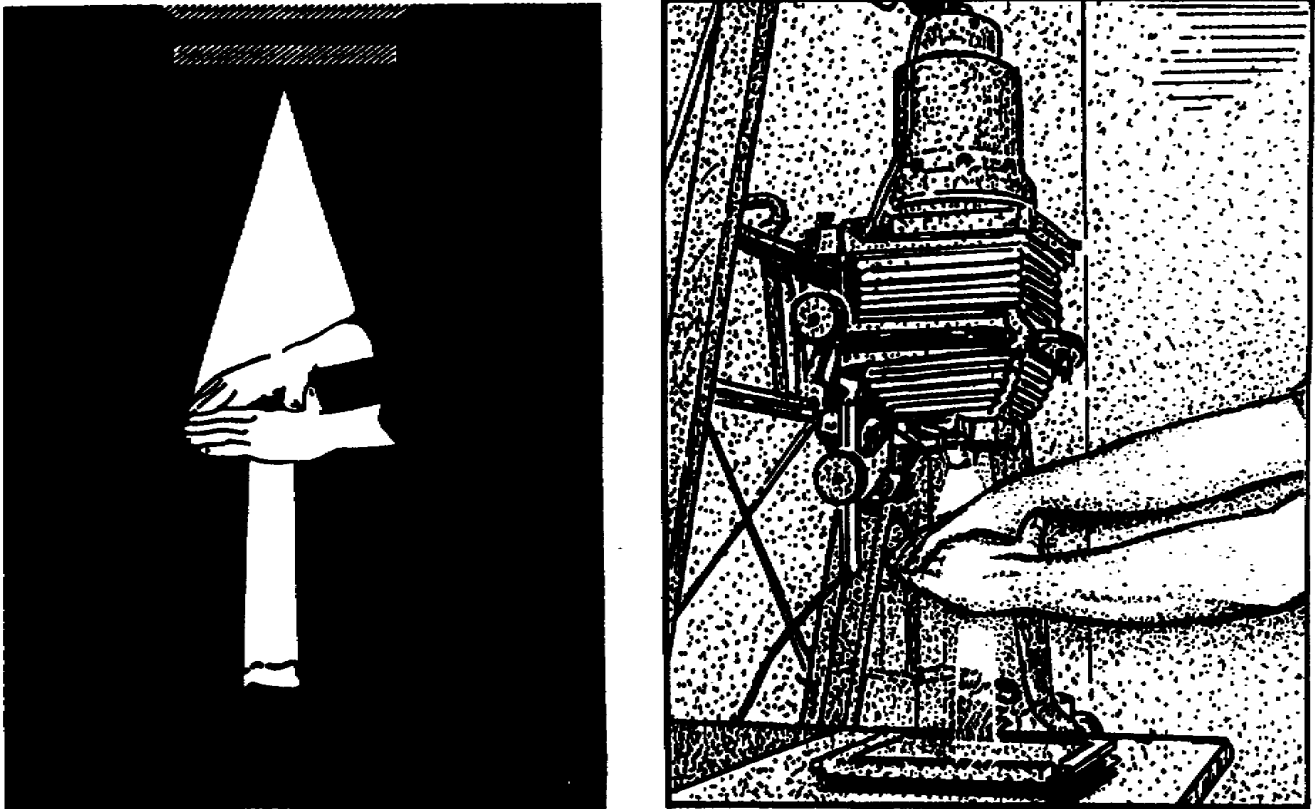

Figure 2-9. Using the hands as a dodging device
b. Since the dodging material is held and manipulated in the beam of light between the lens and paper, its location and coverage can be seen and controlled during the printing exposure. As shown in Figure 2-9, the dodging device may be nothing more than your hands. It is surprising how many shapes you can form with your hands.